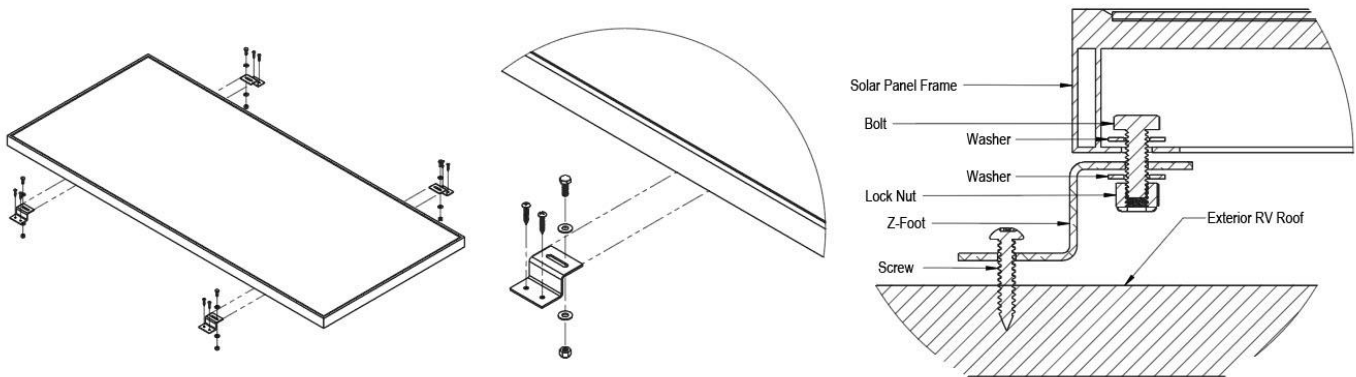

FIGURE 4-A: SOLAR PANEL INSTALLATION DETAILS
1. If the aluminum frame does not show signs of fracture, two washers are to be installed at each of the four brackets as shown in Fig. 4-A